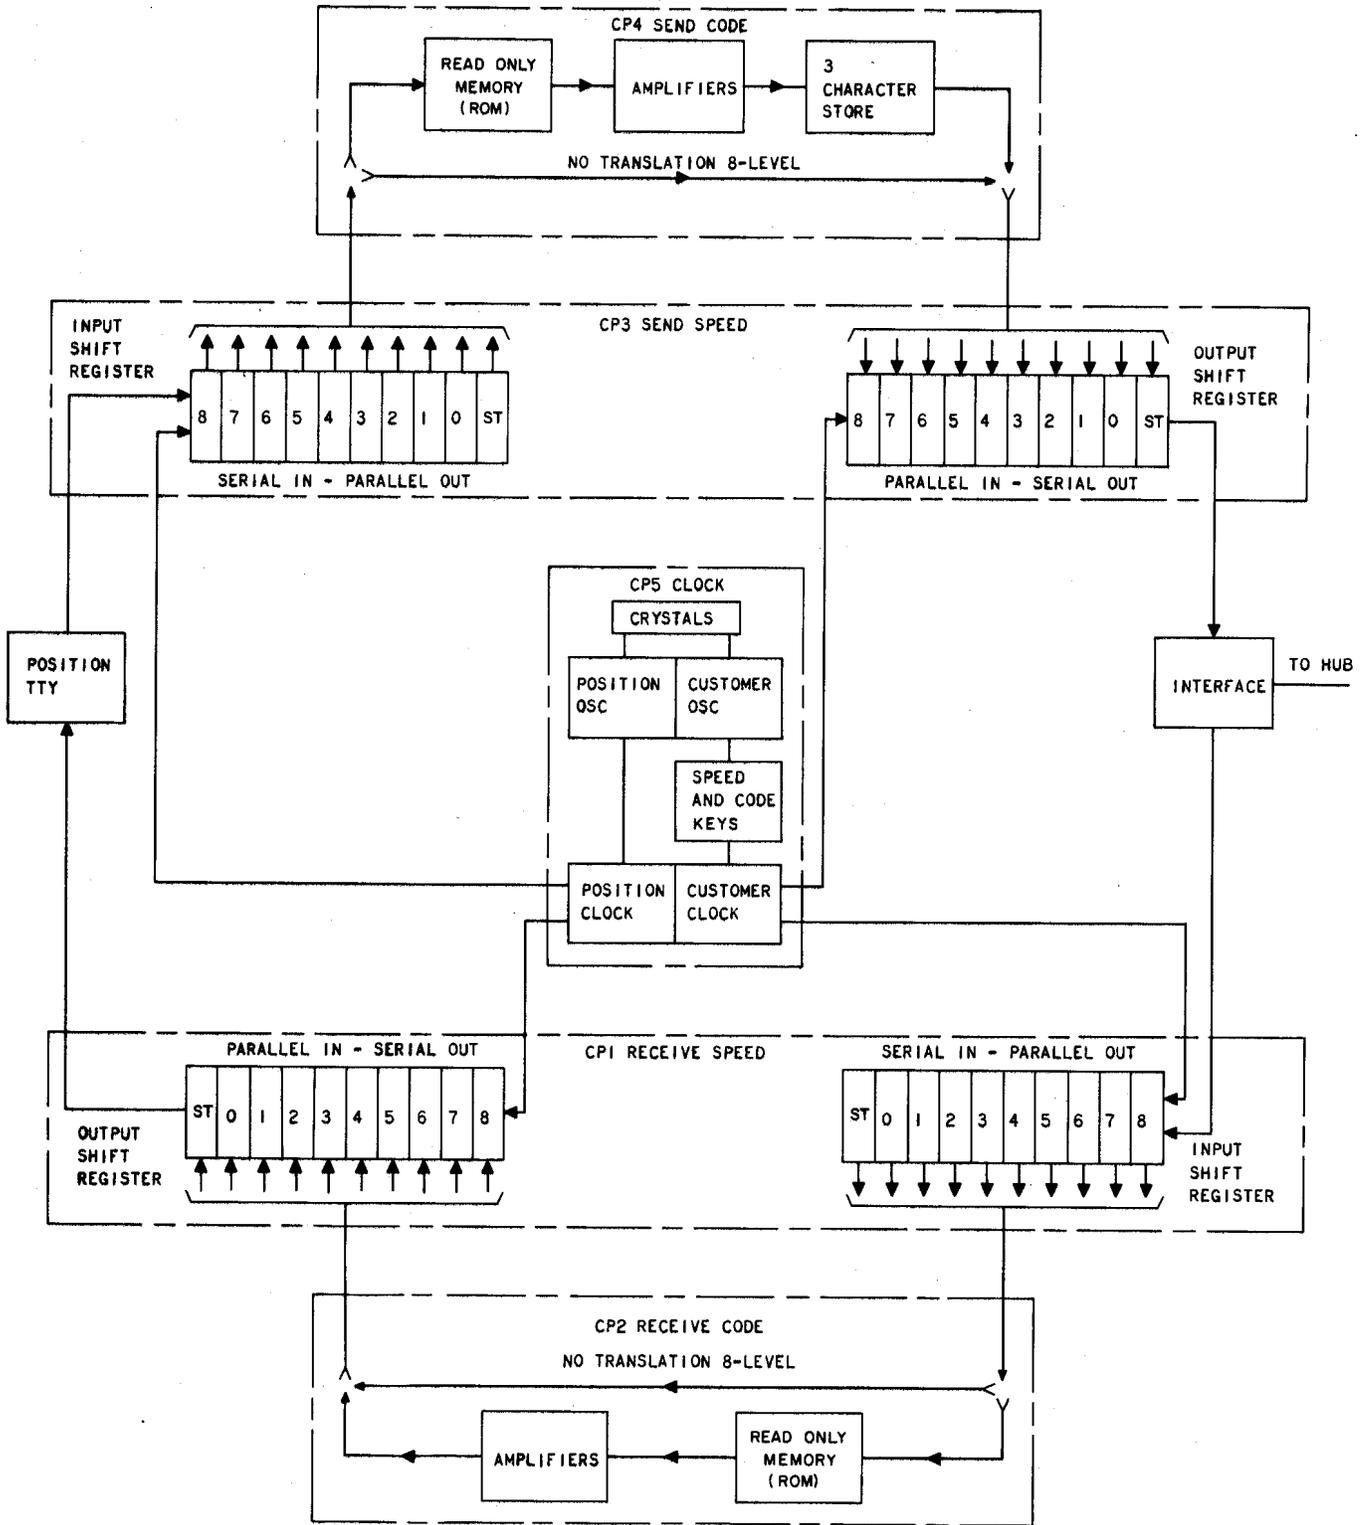

Fig. 5—918B Multispeed and Code Converter—Block Diagram
3.01 A block diagram of the converter is shown in Fig. 5. Also shown are the relationships between the five AR circuit boards. Since the converter operates duplex, two parallel paths are provided, one for the transmit side and the other for the receive side. The transmit and receive sides are similar, the only difference being that